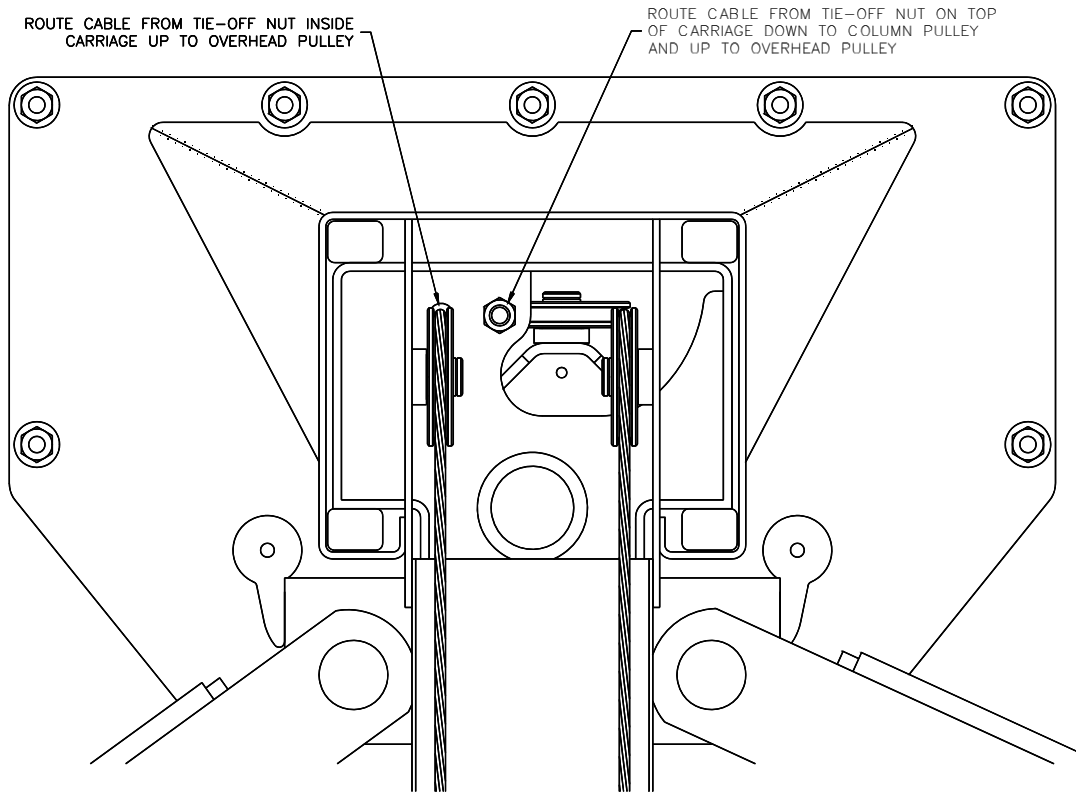

Figure 6
12. Manually raise the carriages to a comfortable working height and set in locks at equal heights. Route the synchronizer cables (Fig. 6).